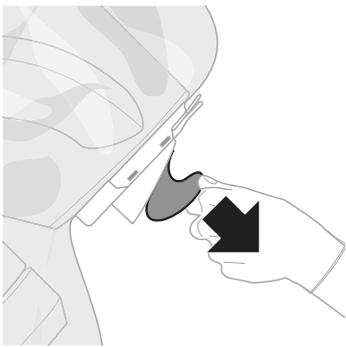

Fig. 21
- ▶ Remove the protective lens film, see Fig. 21.